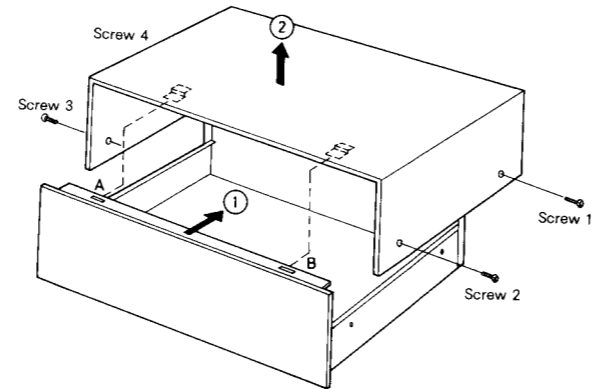

Fig. 2
- (1) Remove four (4) cabinet mounting screws (side) Nos 1~4, as shown in fig. 2.
- (2) Remove metal fitting of cabinet from holes A and B of front panel in arrow direction ①, as shown in fig. 2.
- (3) Remove cabinet from chassis in arrow direction ②, as shown in fig. 2.
- (4) To reassemble, reverse above procedure.